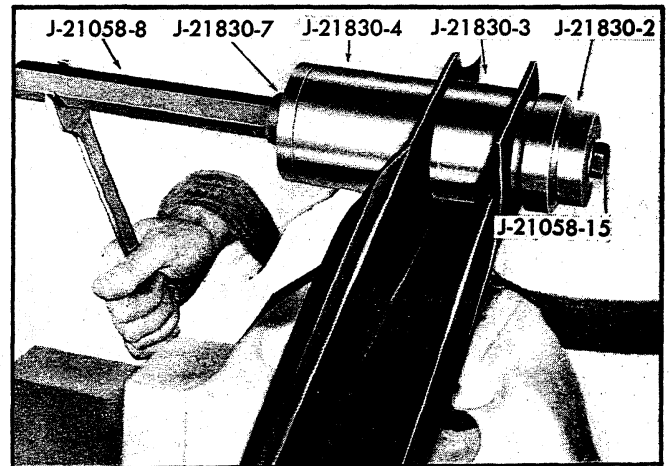

Fig. 36—Lower Control Arm Rear Bushing Installation (Chevrolet)
- e. Install J-21830-4, J-21830-7, thrust bearing and J-21058-8 on threaded end of J-21058-15 as shown in Figure 36. Tighten J-21058 to maintain proper relationship of parts; then position Spacer J-21830-3 over bushing and between sides of control arm.